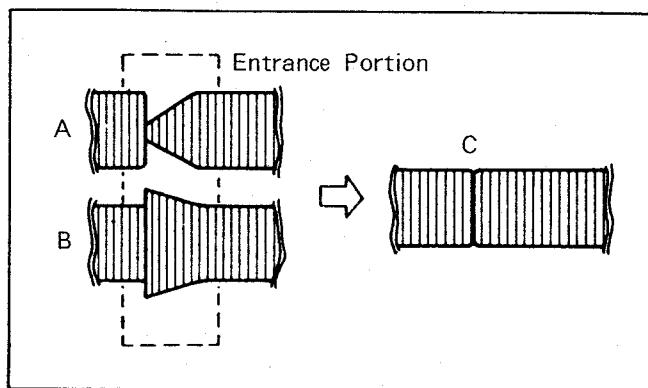
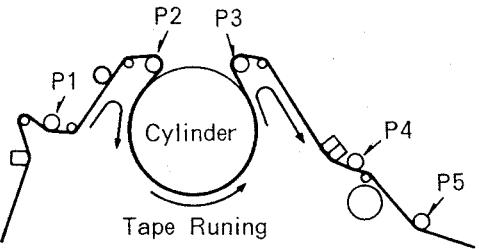

Fig. M9
Fig. M12 Loading of post
- If the RF envelope appears like example "A" or "B" in Fig.M9, then adjustment of tape guide post (P2 : Entrance) is necessary.
- Adjust the tape guide post (P2) with the post adjustment screwdriver so that the RF envelope waveform at the entrance portion becomes flat as shown "C" in Fig.M9. (See Fig.M12 also)